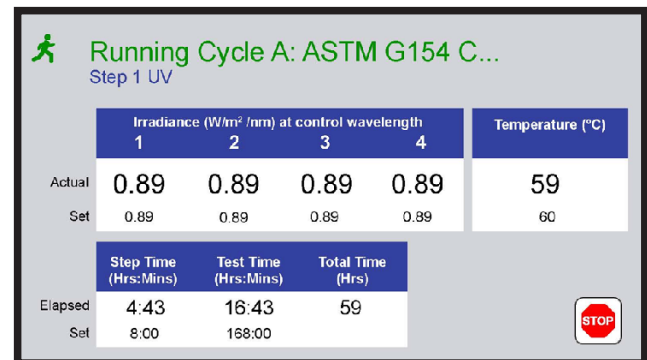

Figure 11.1b: Status screen displaying typical operating conditions.
- The Status Screen is on the left and the Menu Screen is on the right (Figure 11.1b, Figure 11.1c)